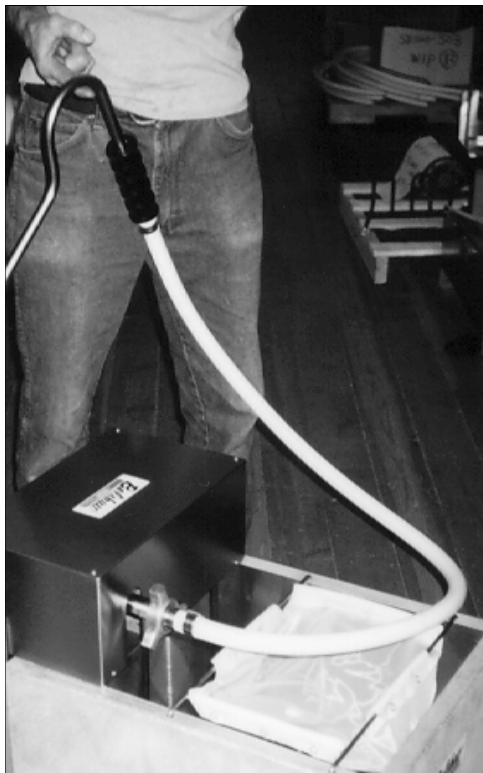

Figure 2-8. Rinsing Hose.
6. Attach the rinsing hose securely to the hose connector. (See Figure 2-8.)